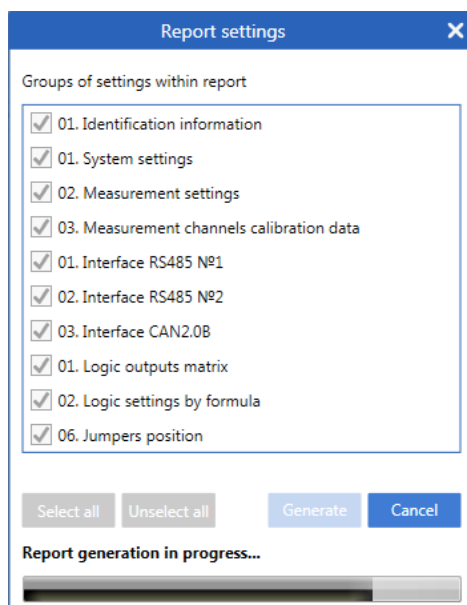

Figure 27 - Report generation process
4) generation process will be displayed (Ref. Figure 27). The process itself can be stopped any time by pressing **Cancel** button.